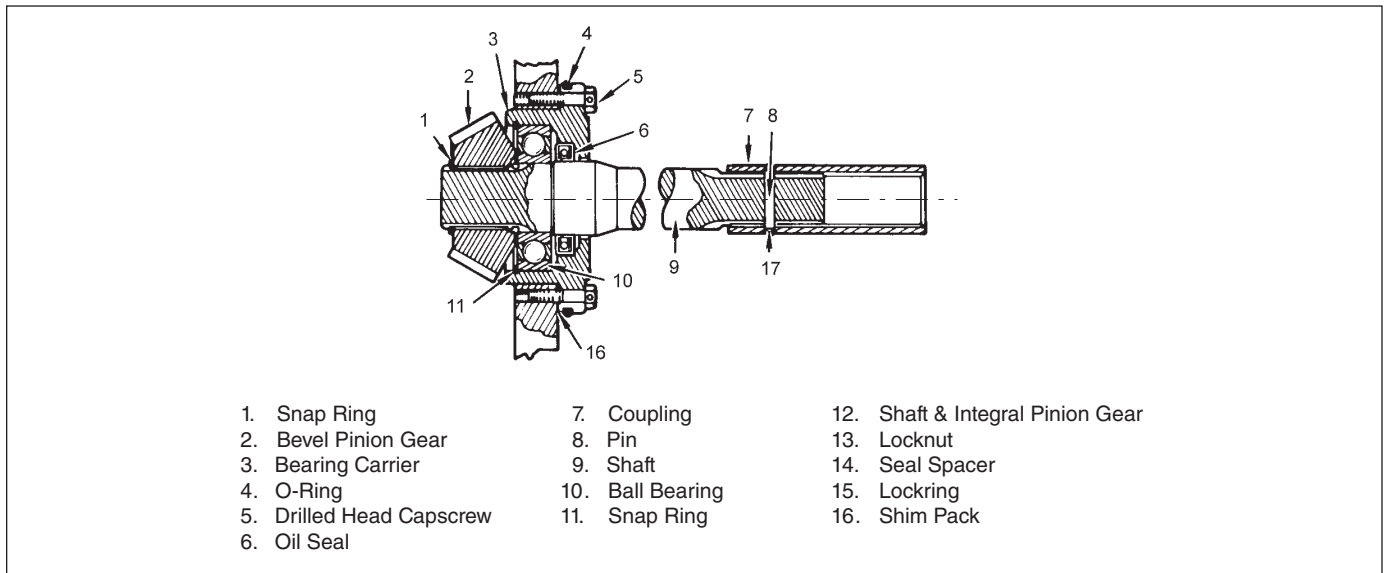
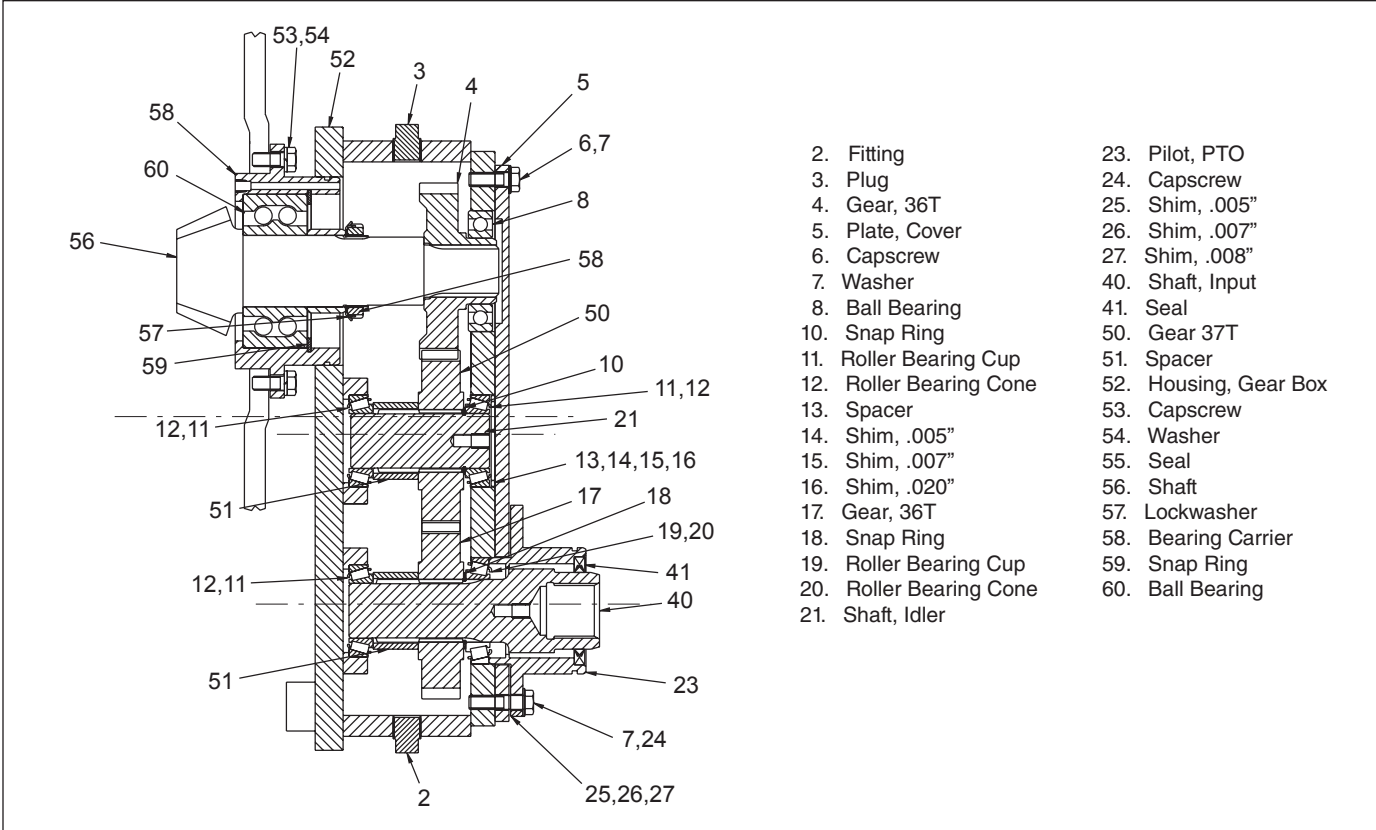

Figure 3-2 PTO Shafts
Figure 3-4 1:1 Dropbox for Caterpillar 583T, D8T
Please refer to Figure 3-2 through Figure 3-5 Before removing the PTO shaft assembly, the winch must be removed from the dozer as explained above in **Winch Removal**.
3. Disassemble and inspect PTO shaft (refer to Figure 3-2 through Figure 3-4).
4. If equipped with a drive adapter, remove the drive adapter box first (refer to Figure 3-4 and Figure 3-5), then the bevel pinion gear and carrier. Disassemble and inspect as required.